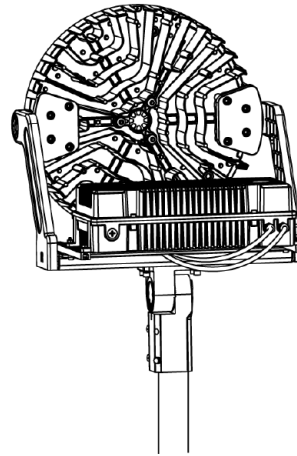

Figure 12
- Place the slip fitter mount on to the pole or tenon, and secure it into place with the provided hardware. (Figure 12)